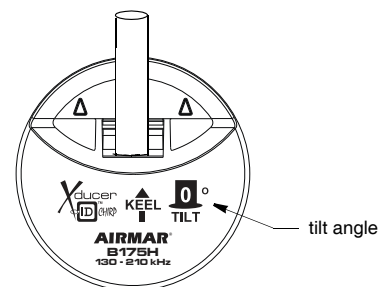
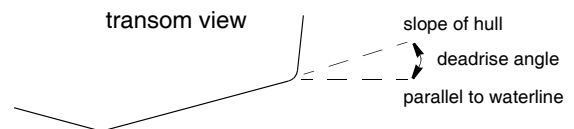

Figure 1. Top of transducer (0° model shown)
Figure 2. Deadrise angle of the hull
Be sure your transducer model matches the deadrise angle of your hull at the selected mounting location. The tilt angle is printed on the top of the transducer (see Figure 1). To measure the deadrise angle of your hull at the selected mounting location, use an angle finder or a digital level (see Figure 2).
**12° and 20° models**—From inside the hull, point the arrow on the top of the transducer (and the cable exit) toward the KEEL or centerline of the boat (see Figure 1). This will align the angle of the element inside the transducer with the deadrise angle of your hull.